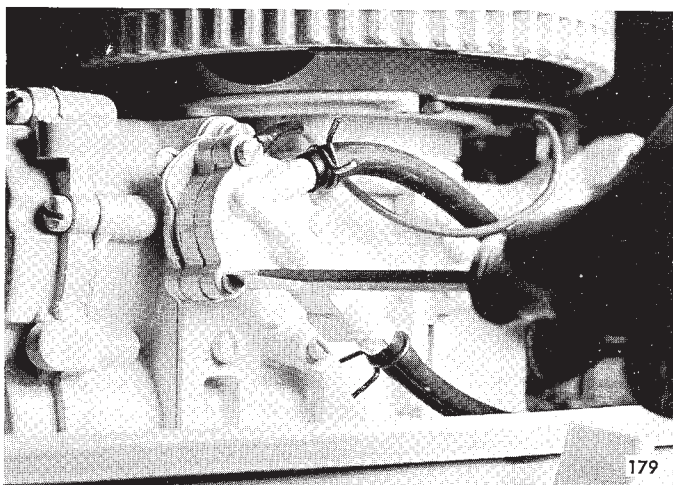

FIGURE 31 — FUEL PUMP
9. Install fuel pump to engine in following order: Install diaphragm gasket to cylinder, then pump diaphragm, another diaphragm gasket, fuel pump reed plate assembly, pump cover gasket and fuel pump cover. The fuel pump is assembled to the upper portion of the transfer port cover, as shown in Figure 31.